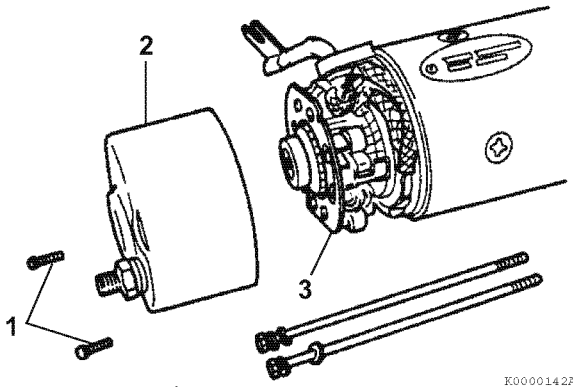

Figure 10-5
- Remove the two bolts (Figure 10-5, (1)) securing the rear cover (Figure 10-5, (2)) to the brush holder assembly (Figure 10-5, (3)).
- Remove the two through bolts. Remove the rear cover (Figure 10-5, (2)).